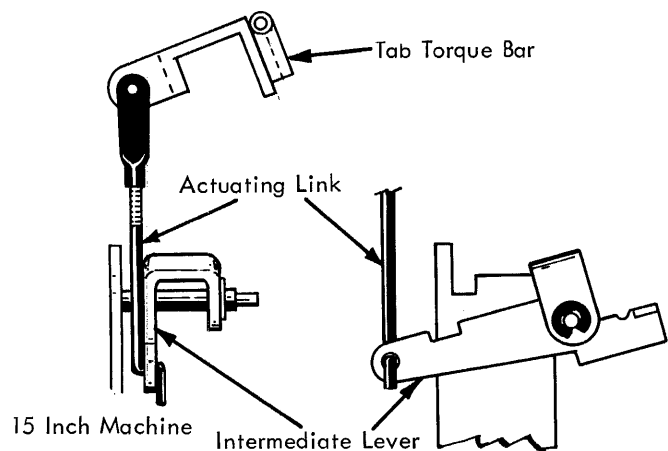

FIGURE 236. Tab Latch Adjustment
10. Tab Lever Overthrow (Fig. 236) - With the tab cam on its high point, adjust the torque bar actuating link for .005" - .010" overthrow between the tab latch and tab lever.
The purpose of the torque bar support is the same as the retaining plate on the late style (Fig. 236).